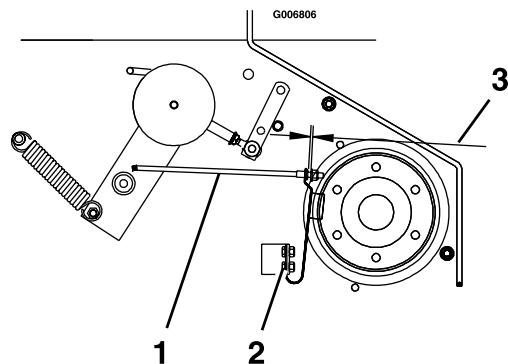

Figure 16
3. Make sure the blade brake pad rests against the sheave. Adjust the spring mounting bolts to properly align the pad on the sheave (see Figure 16).
should be between 1/8 inch and 3/16 inch (3–5 mm) (see Figure 16).